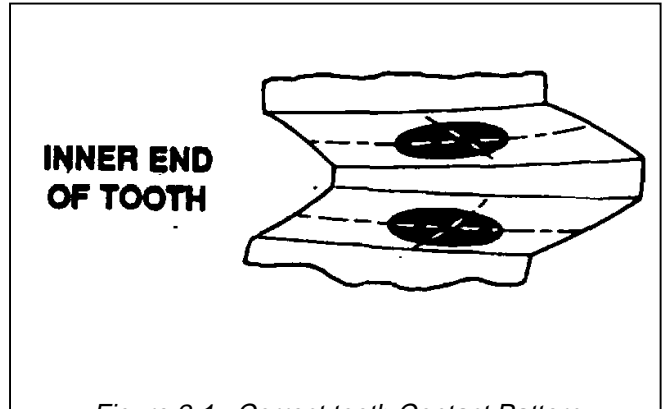

Figure 2-1. Correct tooth Contact Pattern.
- 14 Examine output gear matching gear teeth and determine gear tooth wear pattern. If backlash is correct (fig. 2-1), the gear tooth bearing contact area shall be equal in length and centered on tooth face within 10 percent of length and width. The contact area should be 0.3 to 0.7 in. (7.6 to 17.8 cm).